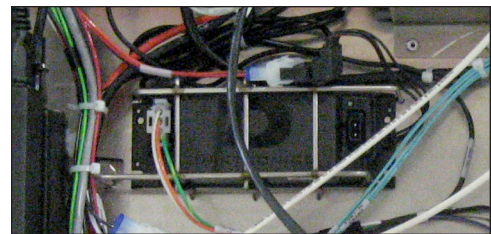

Figure 31: DMP/VIP Power Supply Bracket
2. Push down on the top leg of the wire form bracket and rotate the power supply clockwise. Refer to **Figure 31**.